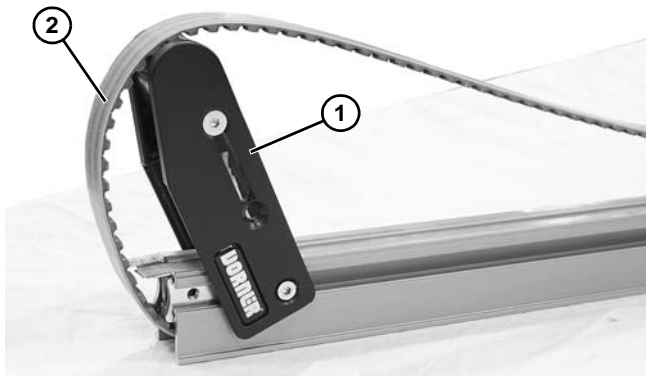

Figure 49
2. Tip headplate assembly (Figure 49, item 1) up and remove belt (Figure 49, item 2).